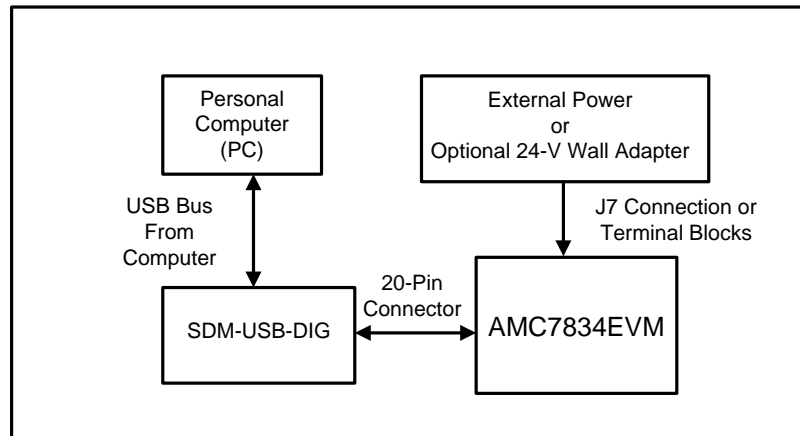

Figure 1. AMC7834EVM Hardware Setup
This section provides the overall system setup for the EVM. A personal computer (PC) runs software that communicates with the SDM-USB-DIG platform, which generates the power and digital signals used to communicate with the EVM board. An optional +24-V wall supply can provide power through the J7 connector to provide power to on-board power regulators (LDOs) that regulate the analog and digital supplies. By default, on-board connectors are included on the EVM board for external supplies. Figure 1 displays the system setup for the AMC7834EVM.